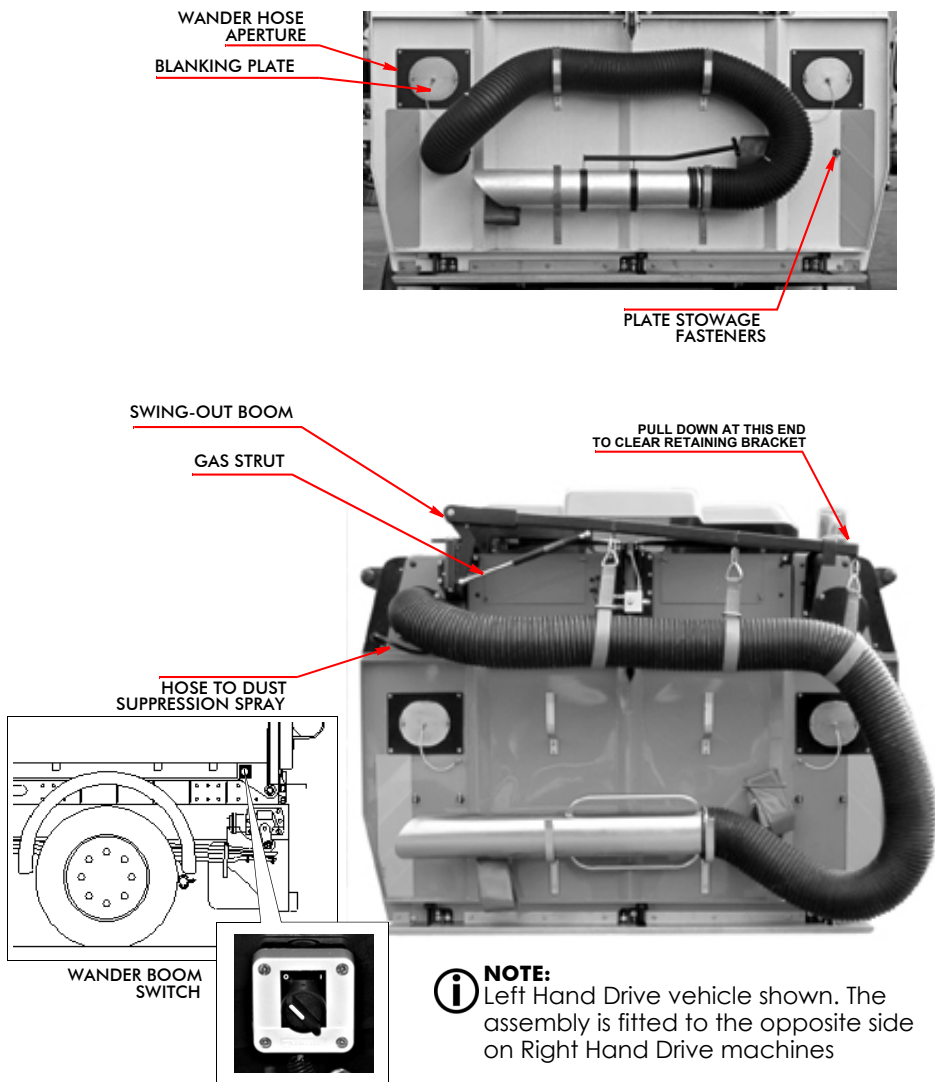

Fig. 7 Wander Hose & Wander Boom Arrangements
3. Rotate the wander boom switch clockwise to Position 1 **ON** (Fig. 7). The blanking flap will open and the dust suppression spray jets will start. The wander boom is now ready for use.